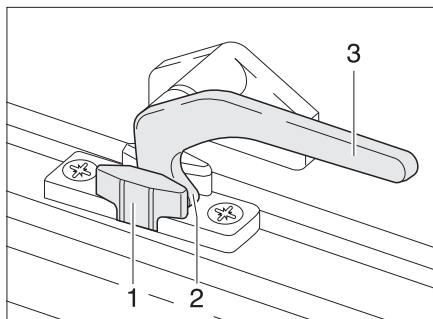

Fig. 37 Catch lever in the "continuous ventilation" position
- "Continuous ventilation" (Bild 37)
- Turn the catch lever (Bild 37,3) a quarter turn towards the centre of the window.
- Return the catch lever to its initial position. The locking catch (Bild 37,2) has to be moved into the recess of window catch (Bild 37,1).